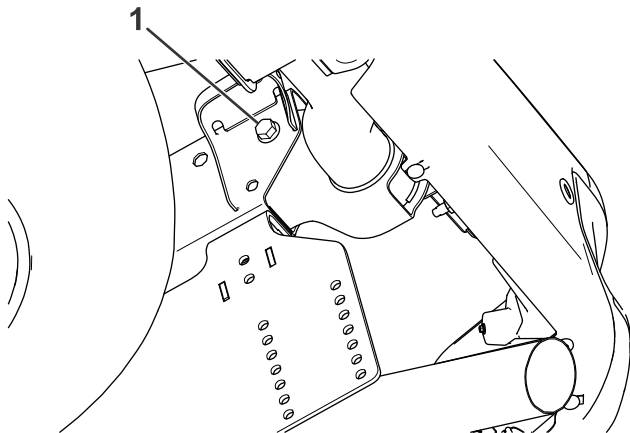

**Figure 3**
- Using the sideplate as a guide, mark and drill a hole (5/8 inch) in the vehicle frame (Figure 3).